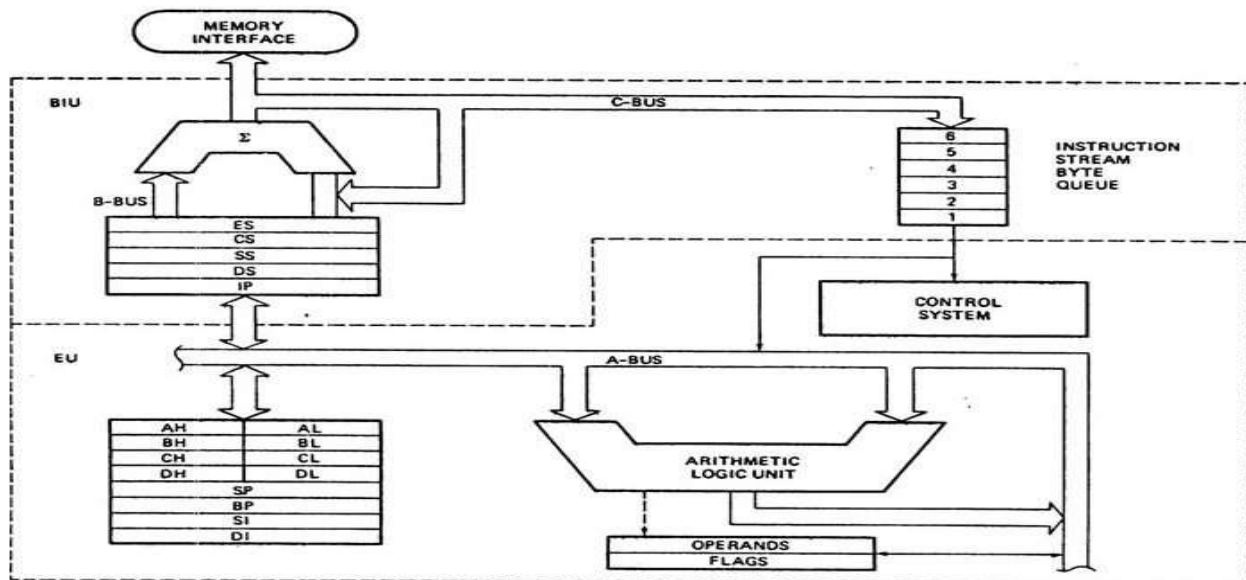

Fig 1.1 The architecture of the Intel 8086
1.9.3 Pin Diagram of 8086: The microprocessor 8086 is a 16-bit CPU available in three clock rates, i.e. 5, 8 and 10 MHz, packaged in a 40 pin Cerdip or plastic package. The 8086 operates in single processor or multiprocessor configurations to achieve high performance. The pin configuration is shown in Fig. 1.1. Some of the pins serve a particular function in minimum mode (single processor mode) and others function in maximum mode (multiprocessor mode) configuration.